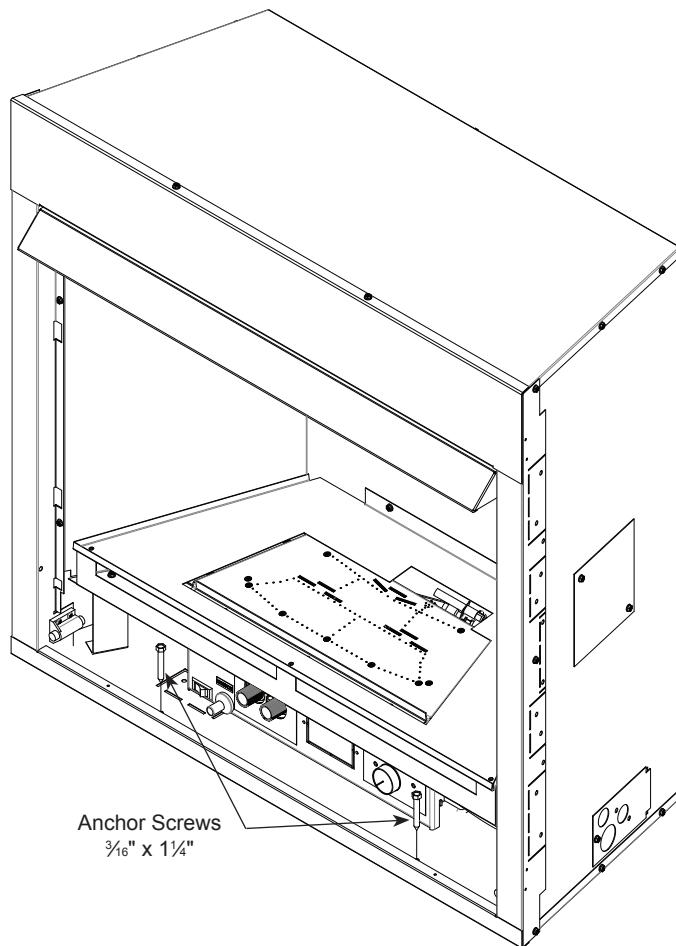

Figure 10. Secure Fireplace to Floor or Hearth
2. Secure the firebox with two anchoring screws ($\frac{3}{16}$ " x 1¼") supplied with the fireplace system. Figure 10